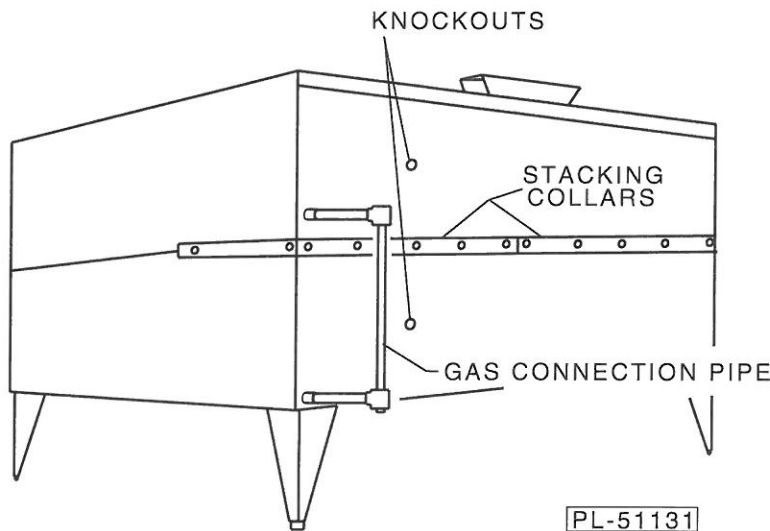

Fig. 1
2. Secure both ovens together with 1 right and 1 left stacking collar (Fig. 1). Fasten collars to ovens using 14 #10-24 screws provided.
3. Install the gas connection pipe (Fig. 1).
To install the nozzle(s), remove the knockout(s) (Fig. 1) from the back of the oven and the plug(s) from the oven cavity. Insert the nozzle(s) provided.